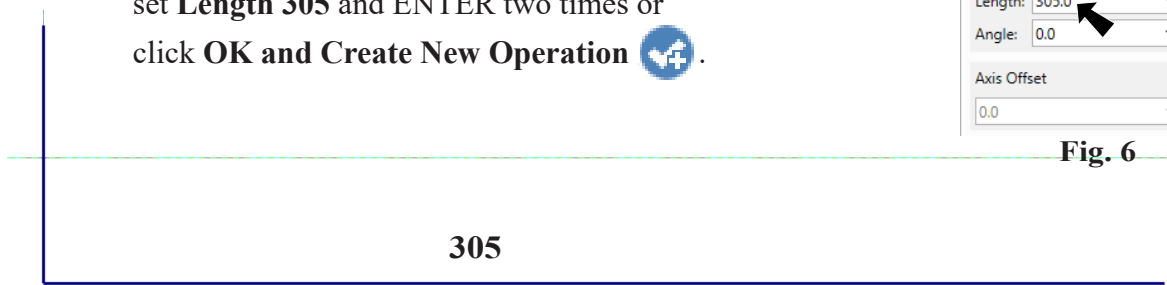

Fig. 5
Step 8. Sketch line **across to right of endpoint of line, Fig 5.**